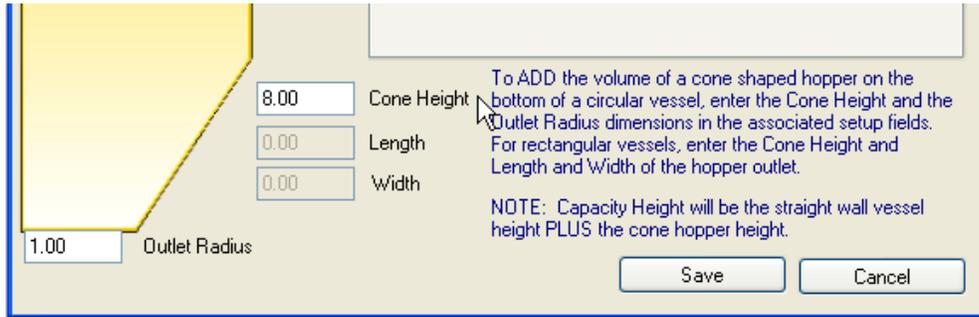

Figure 16
**Cone or hopper bottom configuration** The cone hopper configuration (Figure 16) is a convenient method to compensate for the volume or weight of a cone shaped vessel bottom.